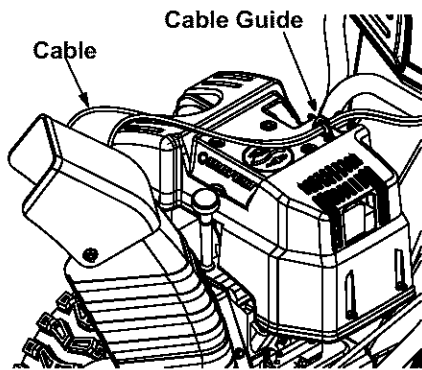

Figure 3
- If not already attached, slip the chute cables (running from the handle panel to the discharge chute) into the cable guide located on top of the engine. See Figure 3.